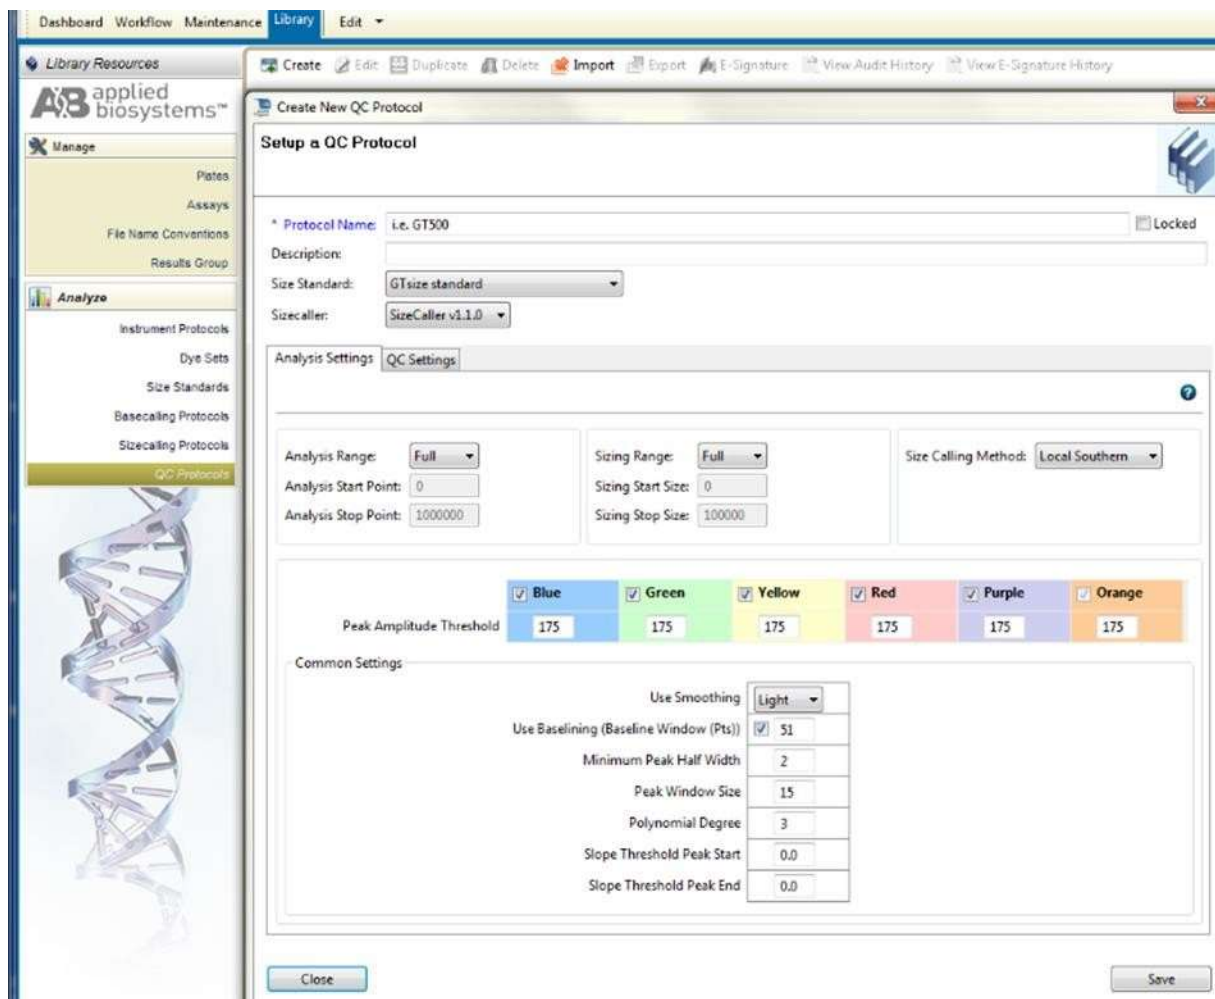

Figure 6. Screenshot for the “Create New QC Protocol” window on Applied Biosystems 3500 Data Collection software.
- c) Select “Create” (Figure 6)
Users can select settings as shown in the Figure 6 or alternatively may define these settings based on internal validation condition for AneuSure® Plus v2 on the Applied Biosystems® 3500/3500xL Genetic Analyzer.